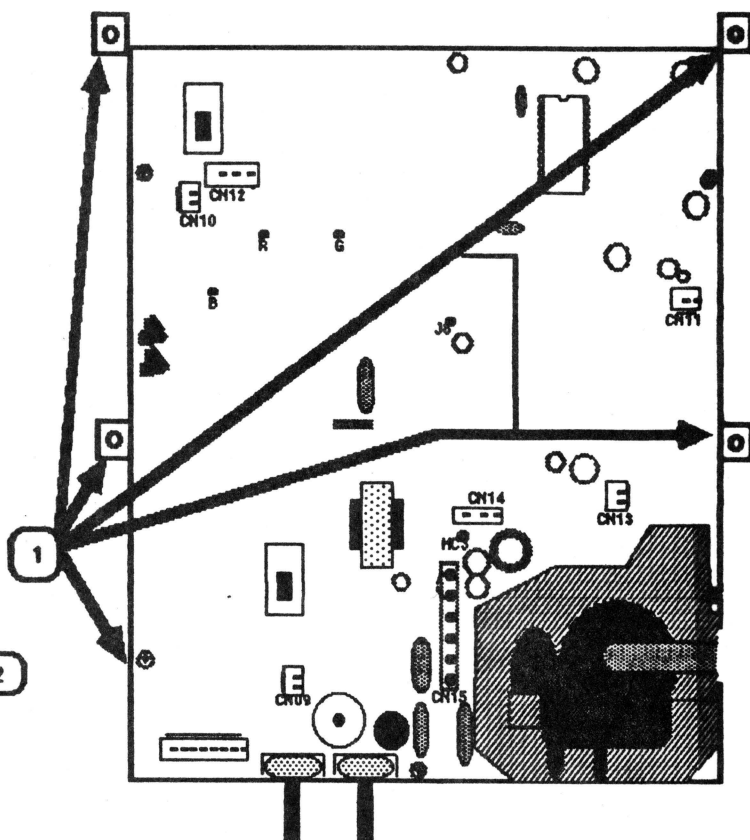

FIGURE 8
7. Remove the five Phillips mounting screws shown in Figure 8, #1.